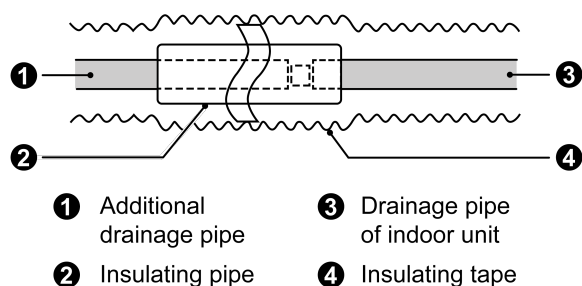

Fig.4.3.1
- (1) It is not allowed to connect the condensate drain pipe into waste pipe or other pipelines which are likely to produce corrosive or peculiar smell to prevent the smell from entering indoors or corrupt the unit.
- (2) It is not allowed to connect the condensate drain pipe into rain pipe to prevent rain water from pouring in and cause property loss or personal injury.
- (3) Condensate drain pipe should be connected into special drain system for air conditioner.
- (4) The drainage pipe should be short and the gradient downwards should be at least 1%~2% in order to drain condensation water smoothly.
- (5) The diameter of drainage hose should be bigger or equal to the diameter of drainage pipe joint.
- (6) Install drainage pipe according to the following Fig.4.3.1 and arrange insulation to the drainage pipe. Improper installation may lead to water leakage and damp the furniture and other things in the room.
- (7) You can buy normal hard PVC pipe used as the drainage pipe. During connection, insert the end of PVC pipe into the drainage hole and then tighten it with drainage hole and wire binder. Can't connect the drainage hole and drainage hole with glue.
- (8) When the drainage pipelines are used for several units, the position of pipeline should be about 100mm (4 inch) lower than the drainage port of each unit. In this case, thicker pipes should be applied.